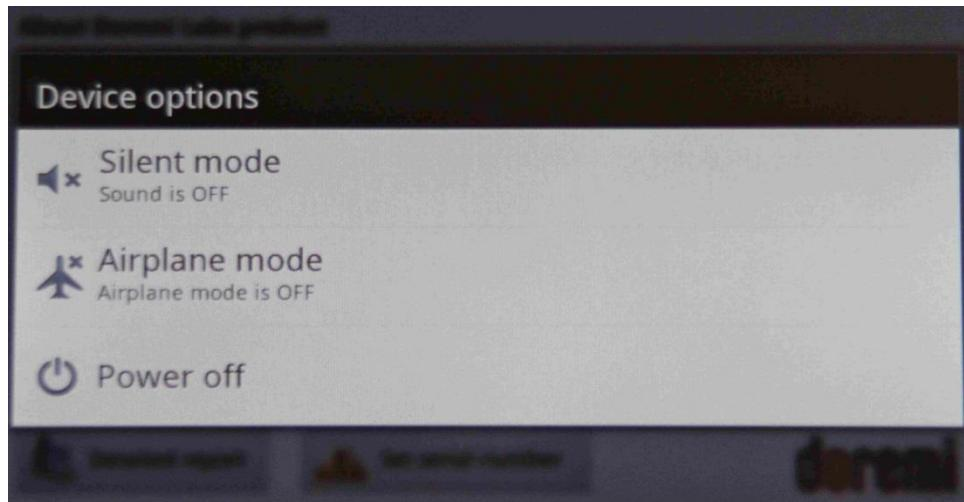

Figure 28: Power Off Screen - Tablet v1.1.2
- Once you have configured all your Fidelio transmitters, power down the Fidelio tablet by depressing and holding the tablet Power button until the Power Off option appears on the tablet screen (Figure 28).